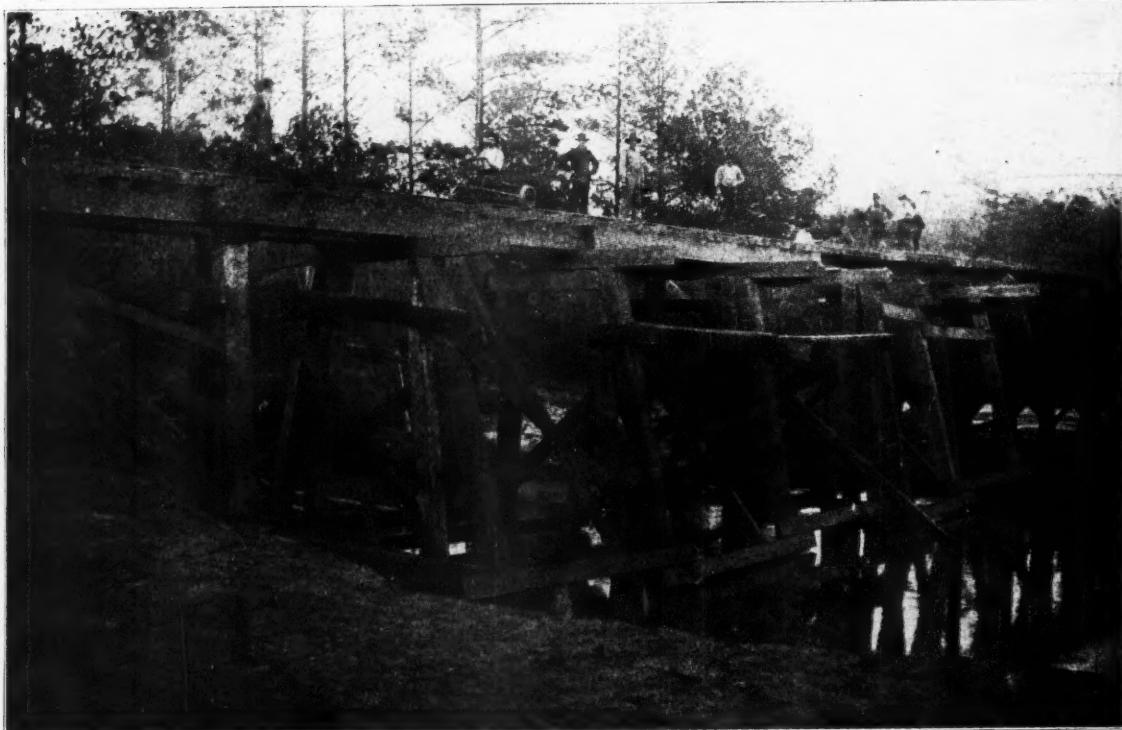

Fig. 6. Temporary Trestle, A. & V.
6. By shimming under the high rail, as in Fig. 6.
The scheme as portrayed in Fig. 6 received no support among the replies, except for temporary work.
Figures 6 and 7 show approaches to a span bridge washed out
and repaired. One approach, as in Fig. 6, was repaired by standing 12 x 12 timbers on rock bottom, capping and bracing the same for bents. The other approach (Fig. 7) was repaired by cribbing with 12 x 12 sticks under the end of the trestle approach and in a section of the hill that was washed out.